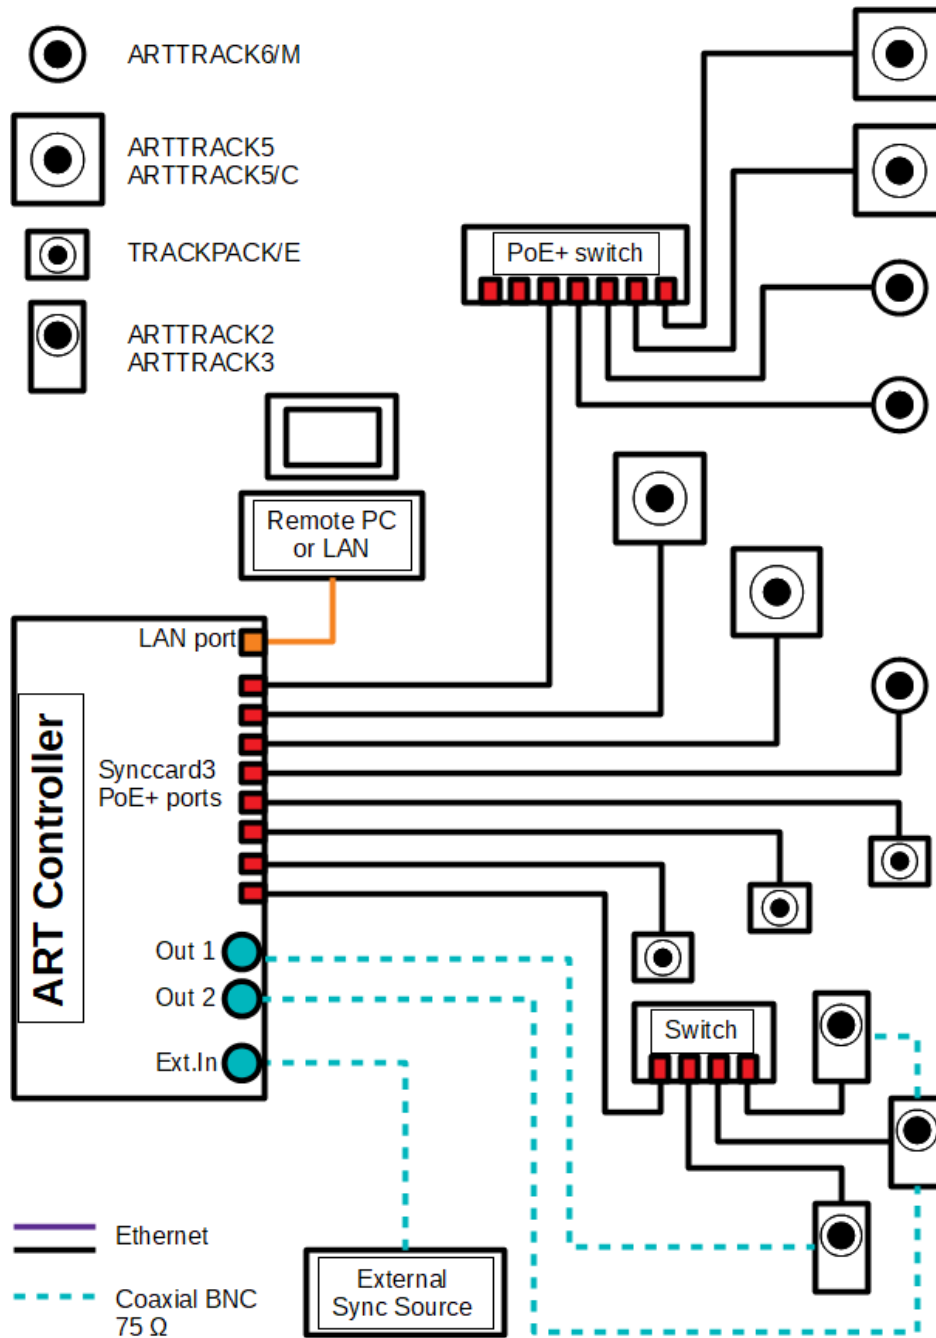

Figure 5.16: Connecting cameras to the *ART Controller* and *ART Controller/M*
**Systems with *ART Controller*** Up to 8 *ARTTRACK6/M*, *ARTTRACK5*, *ARTTRACK5/C* and *TRACKPACK/E* cameras can be connected via twisted pair cables (min. Cat 5, max. length 100 m) to the internal *ART Synccard3* of the *ART Controller* (see figure 5.16 on page 59). You can also build mixed systems connecting different camera models to the same *ART Controller*.
**Systems with *ART Controller/M*** When using the *ART Controller/M* the maximum amount of cameras is limited. A maximum of 6 *ARTTRACK5* or 8 *ARTTRACK6/M*, *ARTTRACK5/C* and *TRACKPACK/E* may be connected via twisted pair cables (min. Cat 5, max. length 100 m) to the internal *ART Synccard3* of the *ART Controller/M* (see figure 5.16 on page 59) respectively. You can also build mixed systems connecting different camera models to the same *ART Controller/M*.